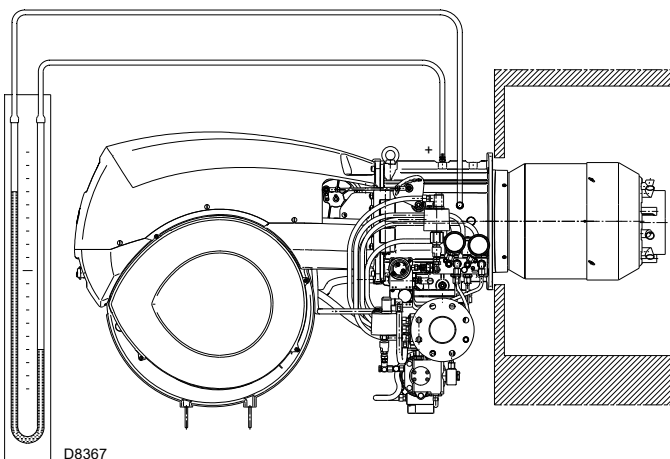

Fig. 33
- Fit a U-type pressure gauge or a differential pressure gauge (Fig. 33), with socket (+) on the gas pressure of the pipe coupling and (-) in the combustion chamber.
The arrival of gas to the sleeve is indicated by the U-type pressure gauge (Fig. 33).